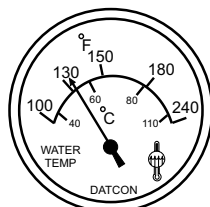

Figure 33. Coolant Temperature Gauge
- The **coolant temperature gauge** (Figure 33) will indicate the coolant temperature. Under normal operating conditions the coolant temperature should be between 180°~221°F (82°~105°C) (**Green Zone**).